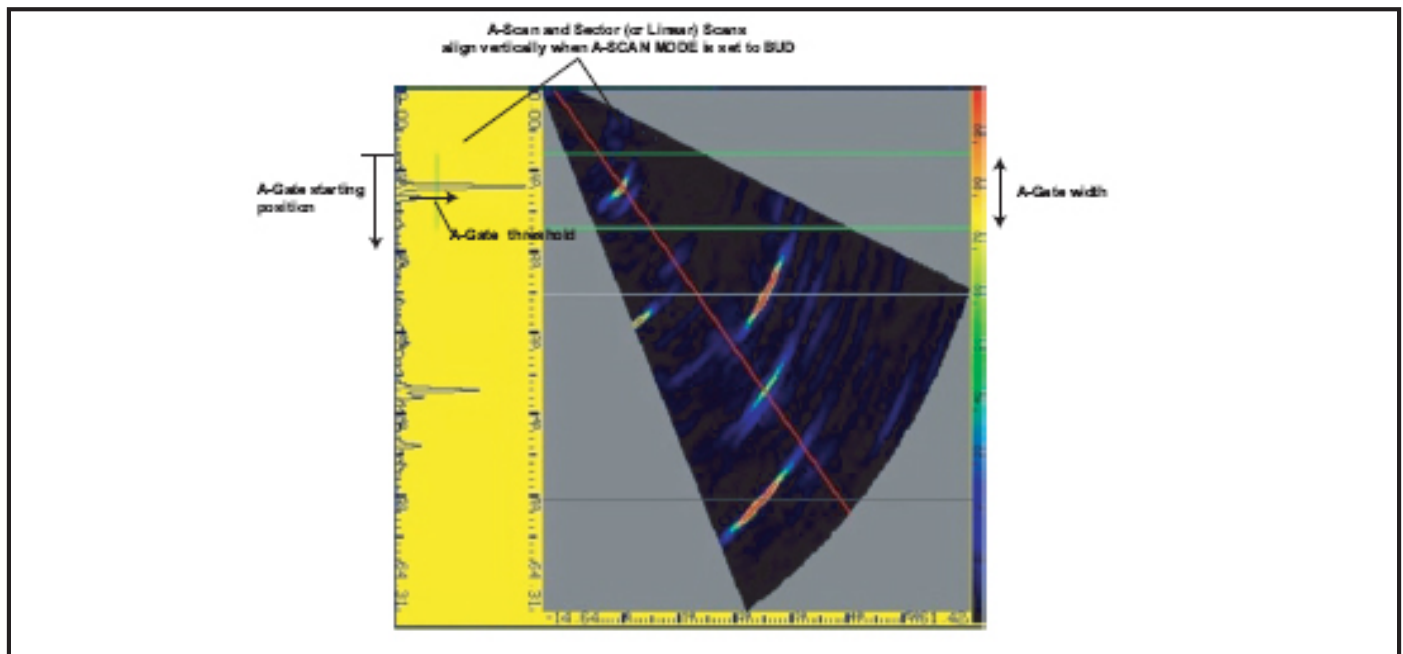

Figure 19: Gate position and width can be adjusted as shown here.
Use the following procedures to set the position of the IF, A, and B-Gates. The effect of each gate-positioning function is shown in Figure 19 below.
- The A-Scan displays echo amplitudes as a function of distance for all reflected sound waves. When the gate is moved down (as shown in Figure 19), the gated area represents a region that's deeper into the test material.